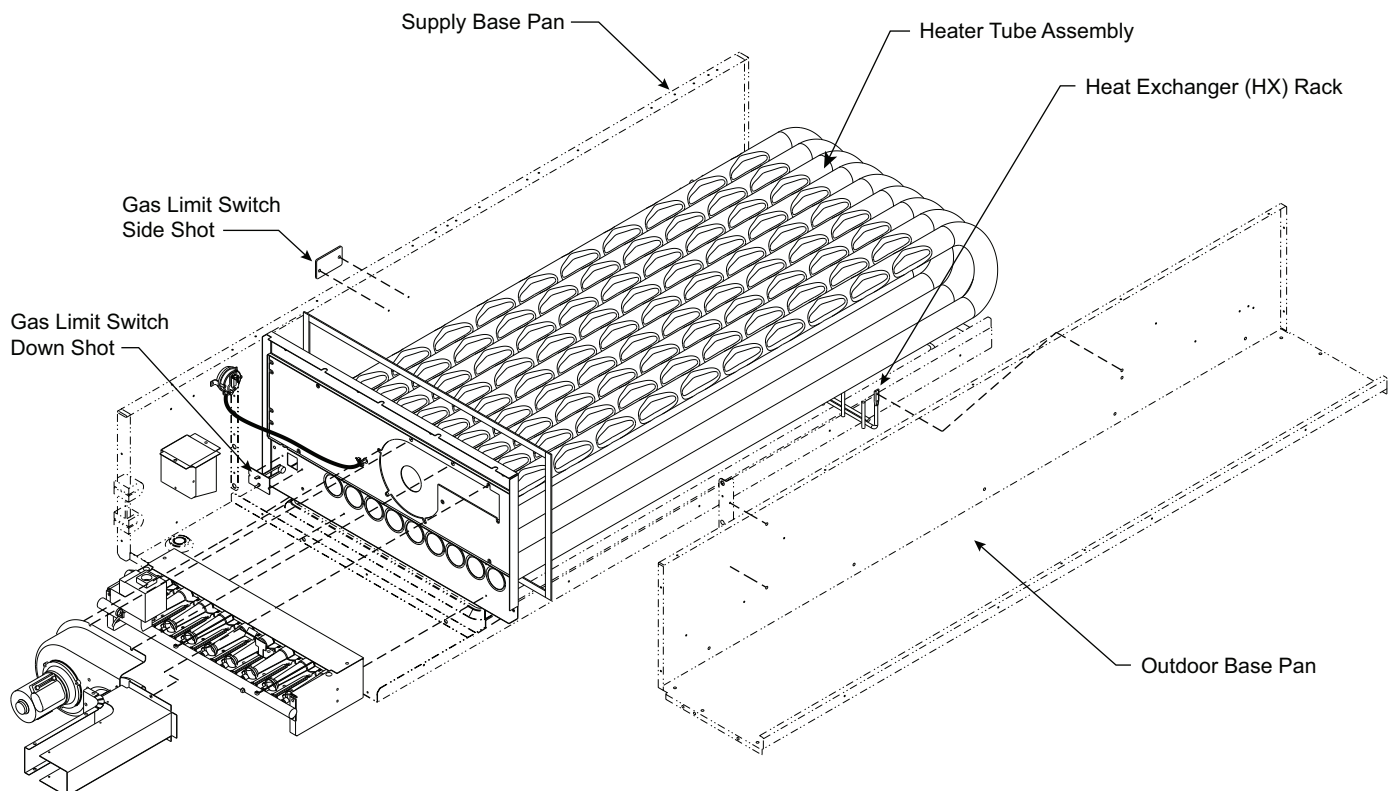

Fig. 43 — Heat Exchanger Access - Gas Limit Switches and HX Rack Locations
1. Remove the screw at the base of the burner partition panel (see Fig. 43) and slide out the panel.
12. Remove the nuts holding the heat exchanger support rack to the fan deck (see Fig. 43).
Remove the indoor blower access panel. Limit switch is located on the heat exchanger cover panel. See Fig. 43.